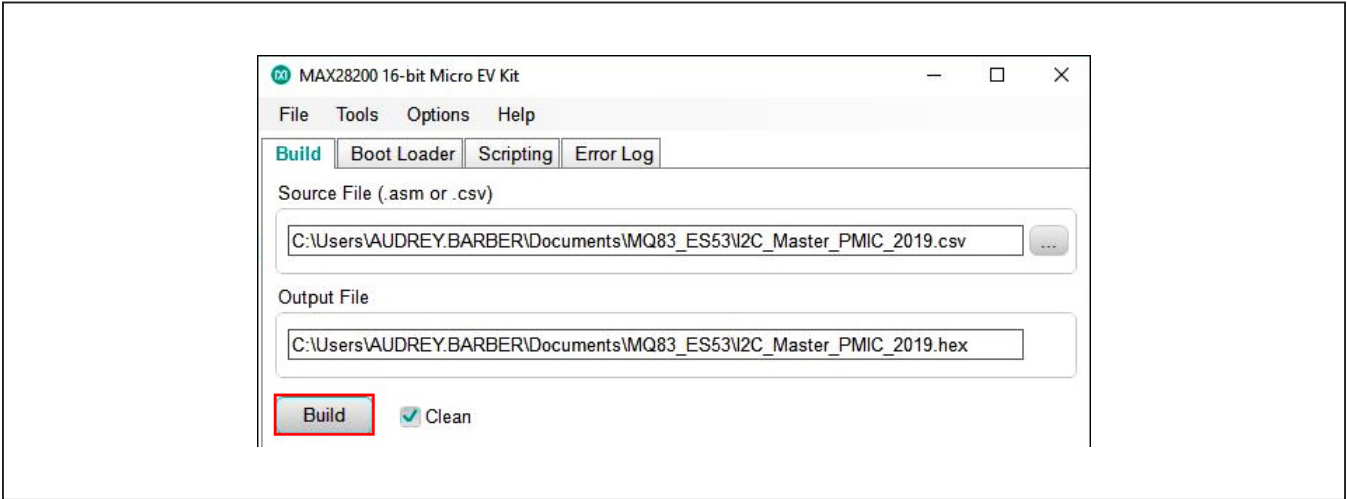

Figure 21. Building the .hex File from the Original .csv File
- 4) Once the file is selected, click the **Build** button to build the CSV file (Figure 21).